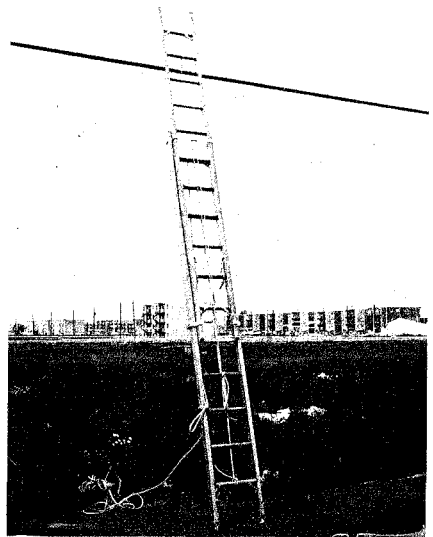

Fig. 27 — Method of Securing Handline
7.12 Move the foot of the ladder out to its working position allowing the top of the ladder to rest on the strand. It may be necessary to extend the ladder further to keep two rungs above the strand. When the ladder is in proper working position (1 to 4 ratio) tie the handline around the second or third rung with a clove hitch and two half hitches. (See Fig. 27) If desired, the handline may be doubled or the tie may be made around two rungs to avoid having excess rope lying on the ground. Tie the ladder extension rope in a similar way.